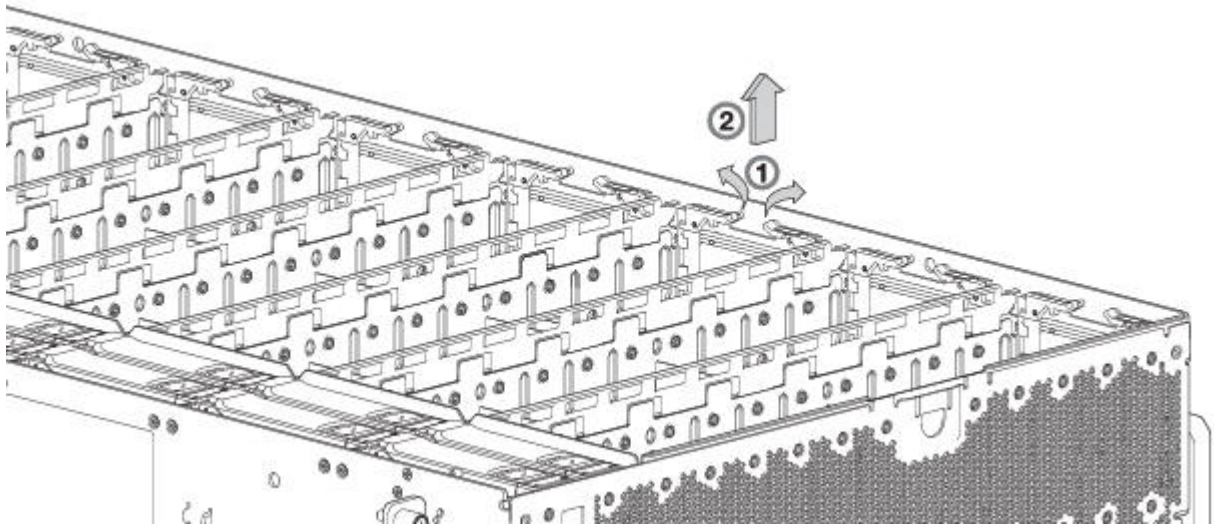
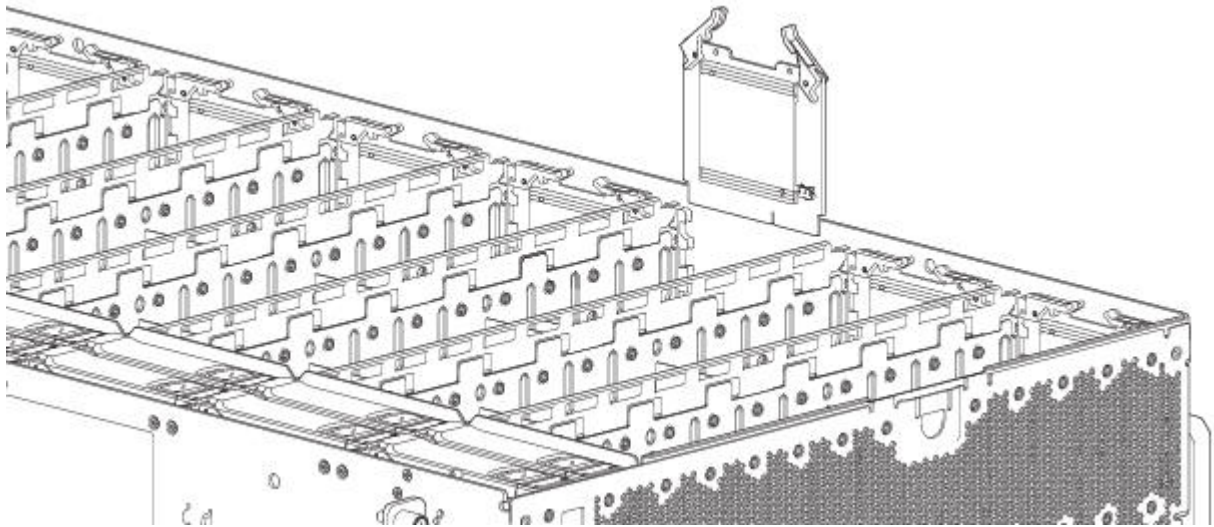

Figure 67. Removing a HS Expander (1 of 2)
Figure 68. Removing a HS Expander (2 of 2)
2. On the faulty HS Expander, grasp each of the two plastic swing-arms between thumb and index finger as shown in Figure 67 on page 74.
3. Revolve each swing-arm upward to release the PCBA carrier from its slot as shown in Figure 68 on page 75.
Refer to Figure 67 on page 74 and Figure 68 on page 75 when performing this procedure, but ignore the directional arrow—since you will insert the module into the slot—rather than remove it.